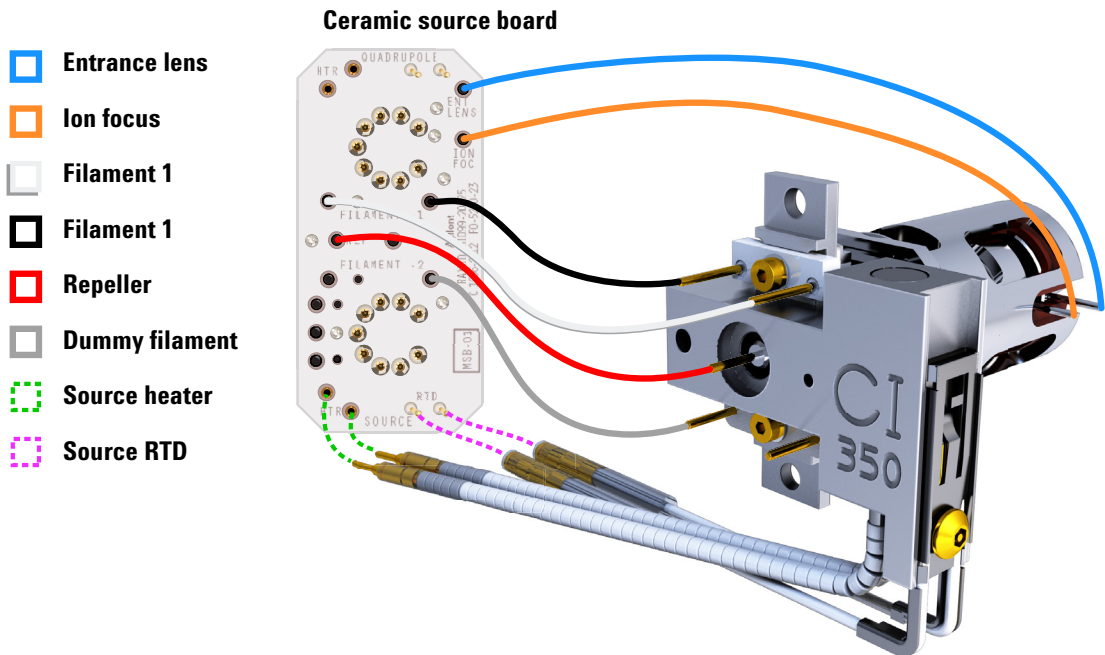

Figure 69 Wiring between the ceramic source board and the source
- 1 Use pliers to connect/disconnect the ceramic board wire leads (red, white, black, and gray) at the source connectors. (See Figure 69.)
- 2 Use pliers to connect/disconnect the source heater wire leads at the ceramic source board. (See Figure 69.)